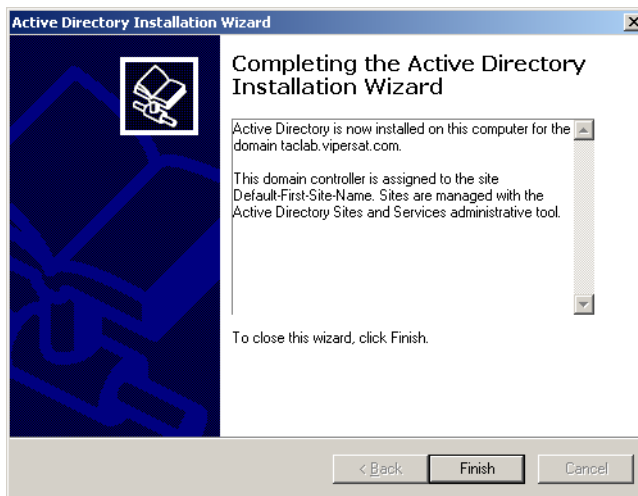

Figure D-19 Complete installation screen
21. When prompted by the screen shown in figure D-19, click the **Finish** button to complete the setup.